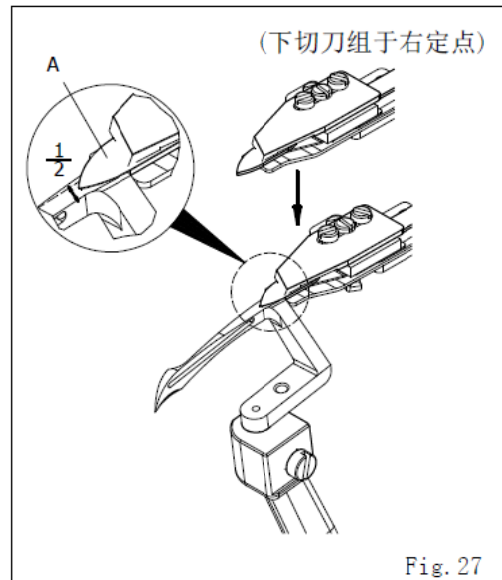

Fig. 27
1. When Lower Moving Knife move to the right, the Moving Knife hook (A) of right hand side one align with the tip (B) of Fixing Knife. When the Lower Moving Knife move to the right dead point, The Moving Knife hook of left hand side one pass the tip of Fixing Knife in 1.0mm. Loosen the screw (C) for adjusting the position of Fixing Knife. (Fig. 27)
当下切刀组由右定点移出至下勾针右侧时(第一段动作)活动片之刀尖(A), 约位于下勾针宽度中心, 前、后 1/2 位置(图 27)
When the trimmer moves out from right dead point to the right hand side of looper, (1st action) the tip of Moving Knife (A) aim to the center of looper ridge. (Fig. 27)